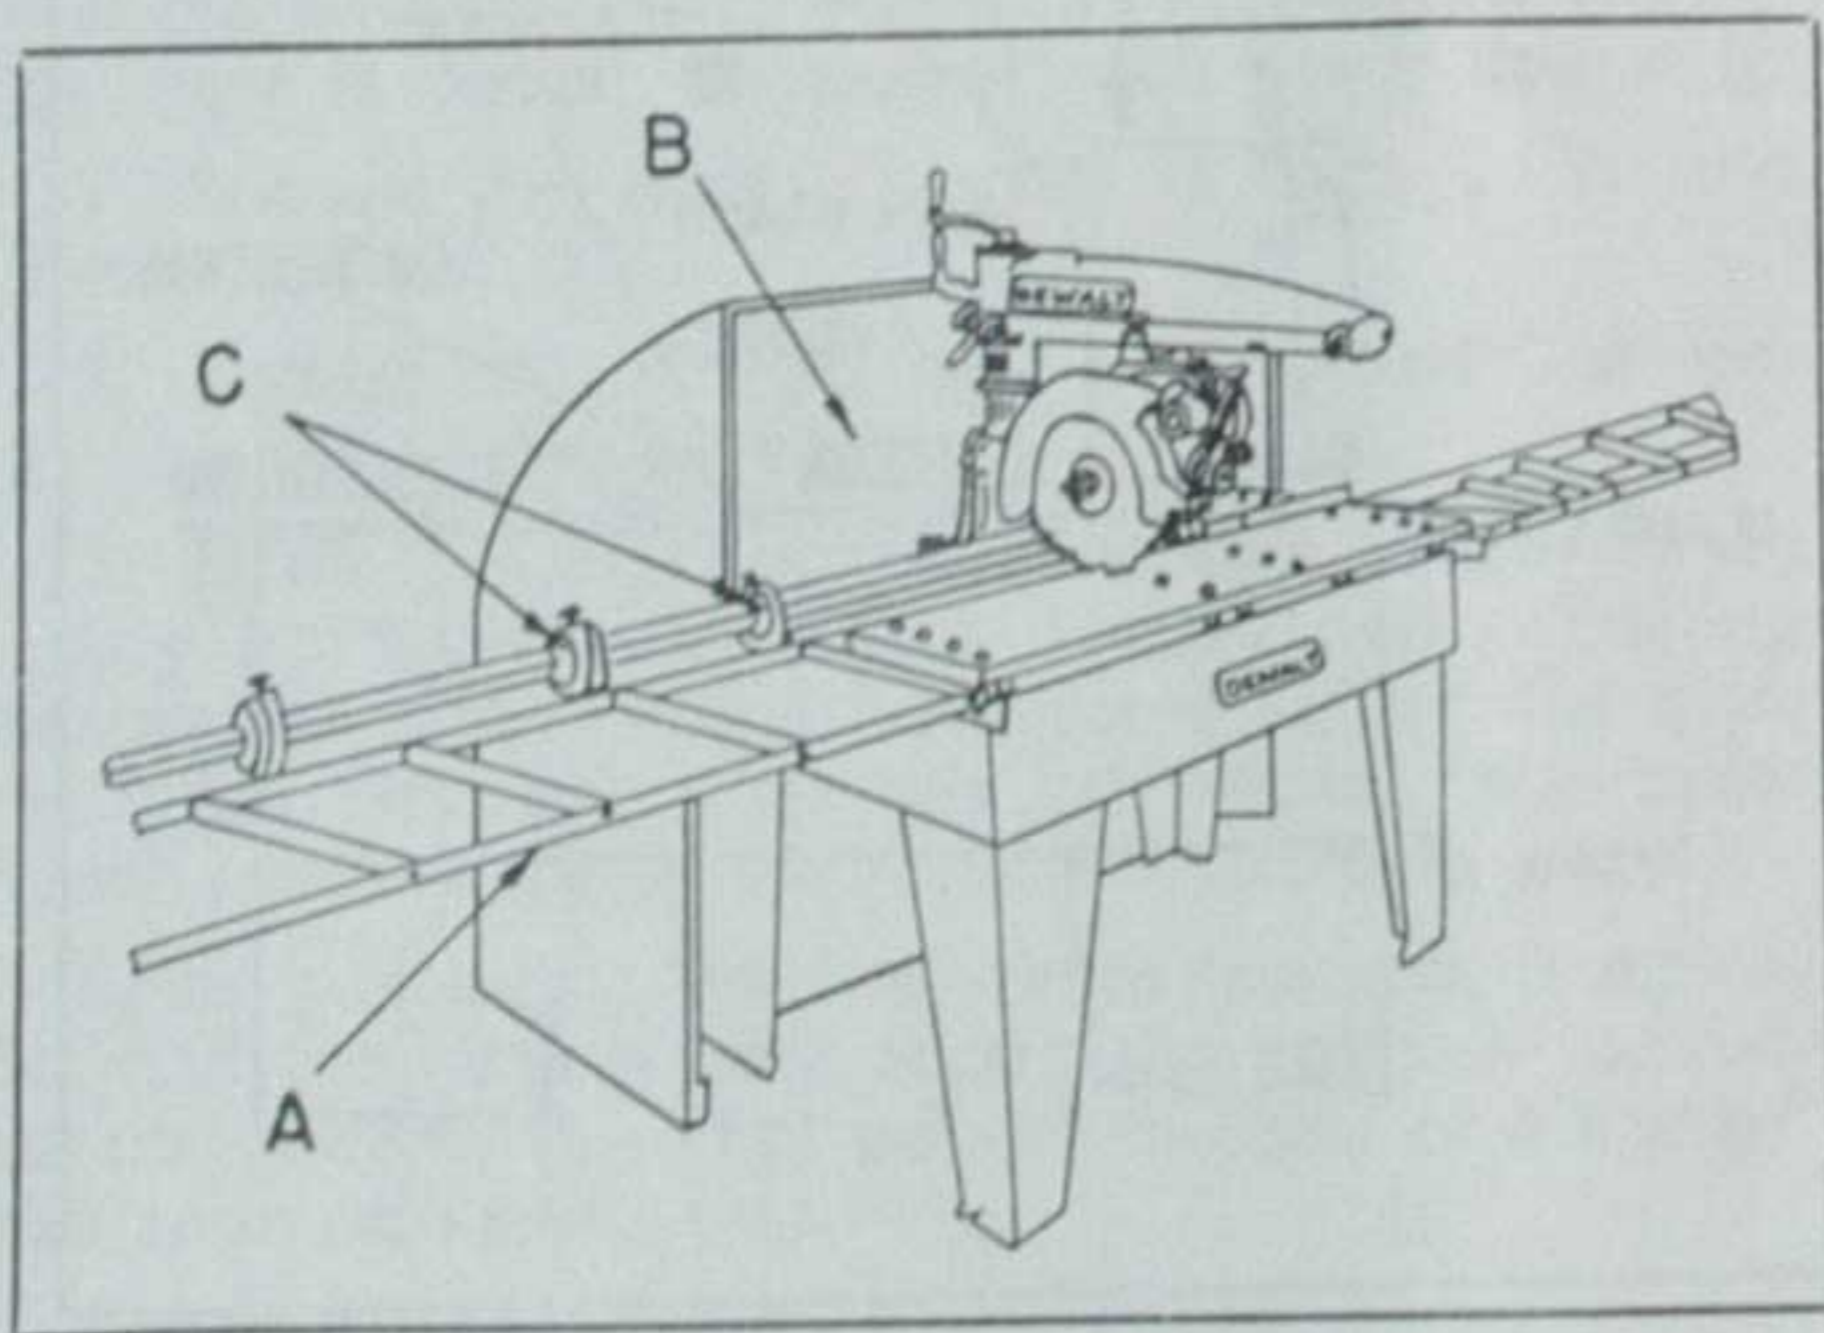

FIGURE 3
Cut-off gauges and stops (C figure 3) are helpful when you wish to cut lumber to exact lengths during production line work. Right or left hand cut-off gauges are easily attached to DeWalt extension tables.
To confine sawdust, construct a dust hood similar to the dust hood (B) shown in figure 3. The dust hood was designed to confine a large percentage of the sawdust that normally results from the operation of a DeWalt Radial Arm Saw. For further information about the construction of a dust hood similar to the one shown in figure 3, write to DeWalt Inc., Lancaster, Pennsylvania.